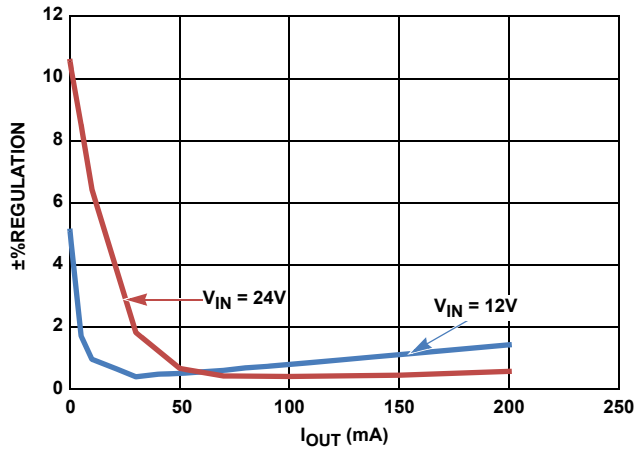
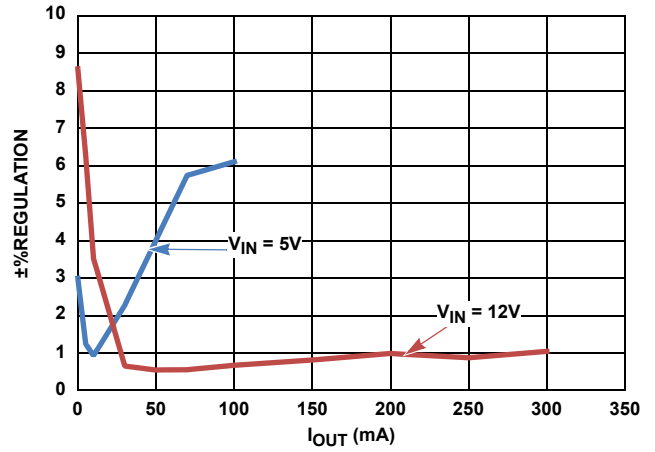

FIGURE 10.  $V_{OUT} = 5V, \%REGULATION$  vs  $I_{OUT}$
FIGURE 11.  $V_{OUT} = 3.3V, \%REGULATION$  vs  $I_{OUT}$
- Continuous output current up to 300mA (refer to Figures 10 and 11)
The curves in Figure 10 indicate the secondary output voltage regulation versus the load applied in the secondary output, without any load on the primary output for  $V_{OUT} = 5\text{V}$ , at different input voltages. The curves in Figure 11 indicate the secondary output voltage regulation versus the load applied in the secondary output, without any load on the primary output for  $V_{OUT} = 3.3\text{V}$ , at different input voltages.